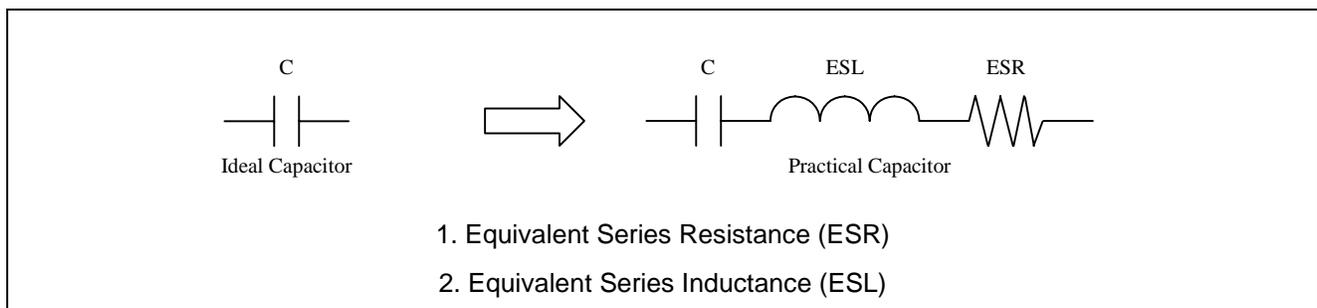

Figure 11 Equivalent Circuit of a Capacitor
- Figure 11 shows the equivalent circuit of a capacitor. The frequency response of the practical capacitor is as follows: